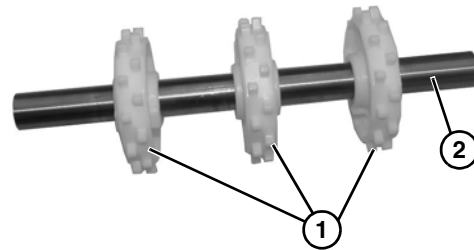

Figure 58
2. Remove three sprockets (**Figure 58, item 1**) off of shaft (**Figure 58, item 2**).